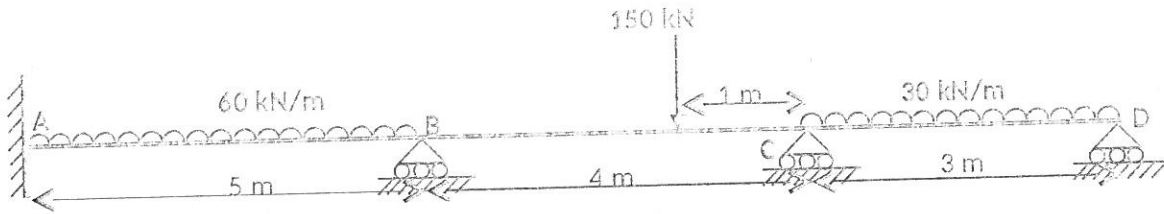

Fig. 3
4. Analyse the continuous beam supported and loaded as shown in Fig.3. Use Clapeyron's theorem of three moments. Adopt  $E = 200 \text{ GPa}$  and  $I = 90 \times 10^6 \text{ mm}^4$ .